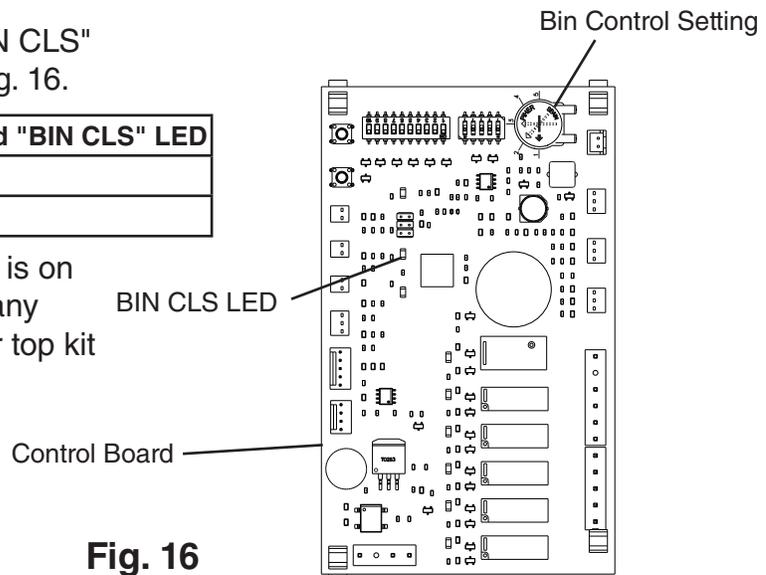

Fig. 16
- 4) Confirm the control board "BIN CLS" LED is off (bin empty). See Fig. 16.